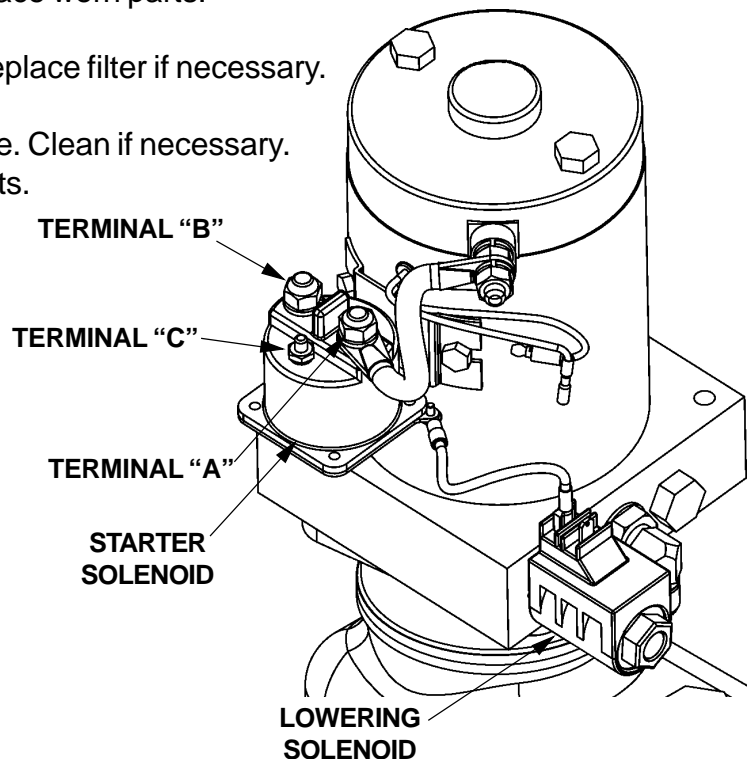

FIG. 43-1
(FIG. 43-1.) Recharge the battery if less than 12.6 volts.
3. Touch a jumper wire to terminals "B" & "C" (FIG. 43-1). If motor runs check Switch, switch connections, and White wire. Check and correct wiring connections or replace the Switch.
4. Touch heavy jumper cables to terminals "A" & "B" (FIG. 43-1).